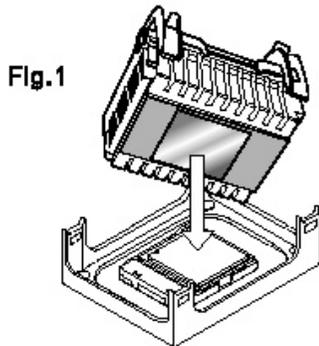
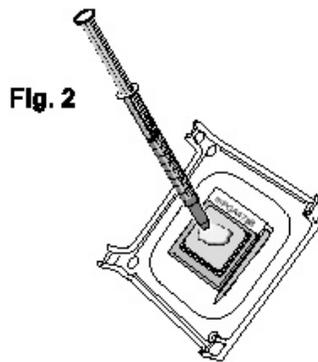

Fig. 1
Fig. 2
4. After installing the CPU you may need to apply the Thermal Interface Material (TIM) to the top of the installed CPU (Fig. 2). The TIM is supplied in an applicator with the boxed Pentium 4 processors. The TIM secures the Fan/Heatsink to the CPU. However, if the Fan/Heatsink already has a patch of TIM on its underside, you won't need to apply additional TIM to the CPU (Fig. 1).
The heatsink may have thermal interface material attached to the bottom as shown in Fig. 1, or you may need to apply the thermal interface material using a syringe as shown in Fig. 2.